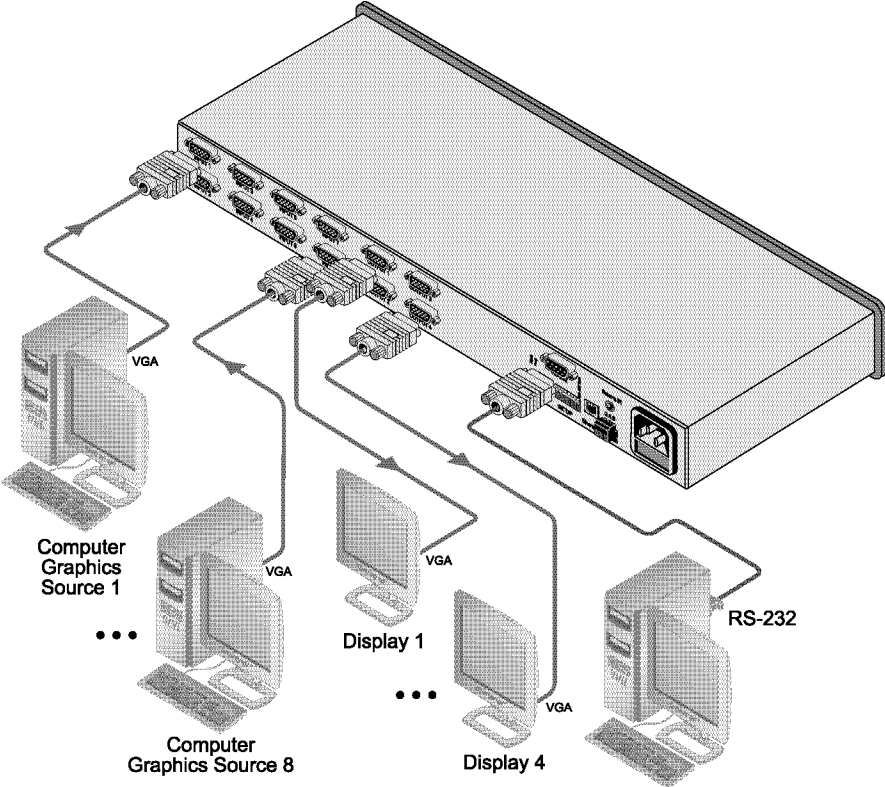

Figure 3: Connecting the VP-8x4 8x4 VGA / UXGA Matrix Switcher
To connect the **VP-8x4** as shown in the example in Figure 3, do the following¹:
5. Connect the power cord⁴ (not shown in Figure 3).